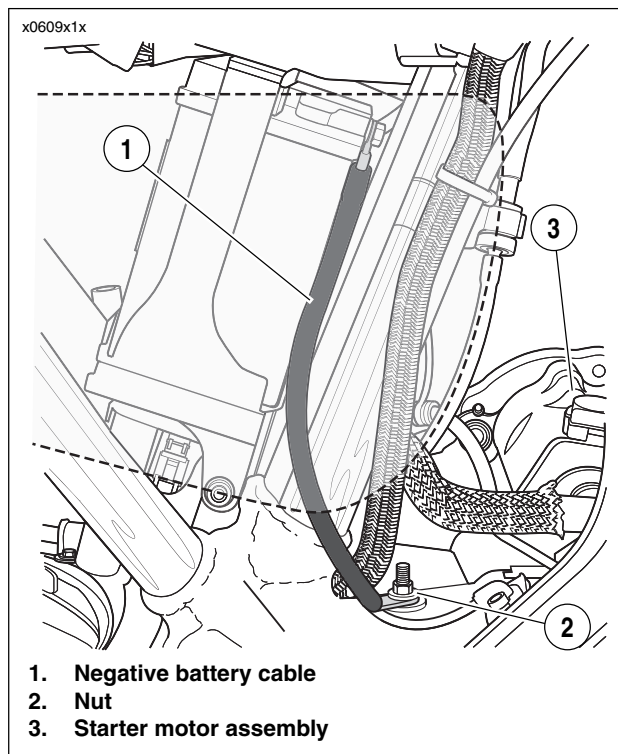

Figure 1-12. Negative Battery Connection
4. See Figure 1-12. Remove nut (2) that secures negative (-) battery cable (1) to stud on crankcase boss behind starter motor assembly (3).
6. Hook top of battery strap (3) to battery tray mount on top of battery. Install flat washer and strap screw (4). Tighten to 36-60 **in-lbs** (4.1-6.8 Nm).
8. Hook Maxi-Fuse holder (1) to pin on battery strap and slide forward until it snaps into place.
9. See Figure 1-12. Place negative battery cable end (1) onto stud on crankcase boss behind starter motor assembly (3). Thread nut (2) onto stud. Tighten to 55-75 **in-lbs** (6.2-8.5 Nm).